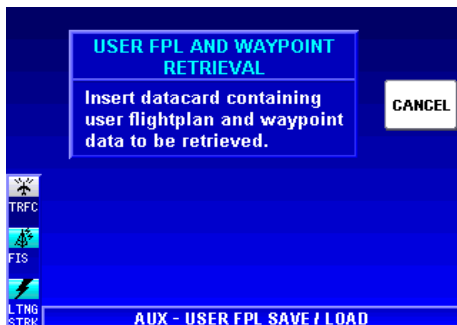

Figure 1-193
6. When Figure 1-193 is displayed, insert the datacard containing the data to be copied.